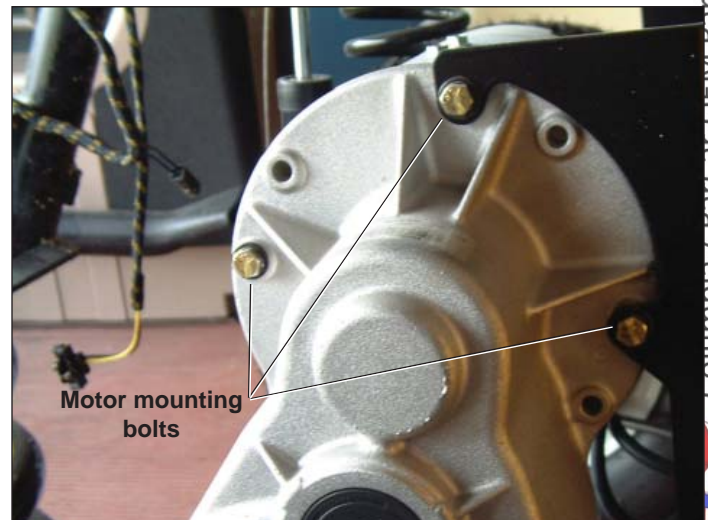

Figure 9-2. Traction Motor Mounting
- See Figure 9-2. Carefully support motor to prevent it from falling, and loosen and remove three bolts, lock washers and f at washers securing motor to rear axle/dif ferential housing. Pull motor away from rear axle housing and lift it clear of the vehicle.